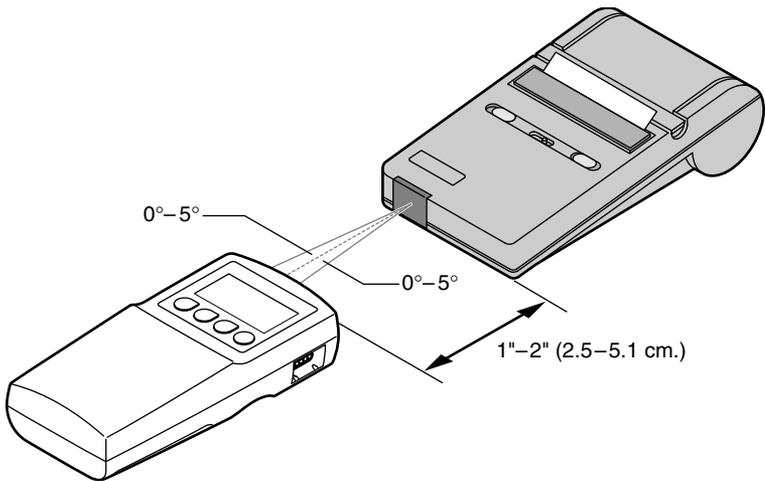

Figure 6: Aligning the NPB-40 and Printer
1. Place the printer and monitor on a flat, stable surface, oriented as shown in Figure 6.